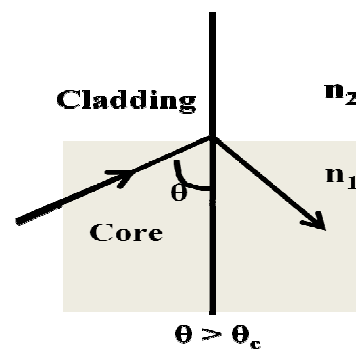

Fig.3
- iii. When $\theta > \theta_c$, then the ray totally reflects into the same medium (core) as shown in fig.3.